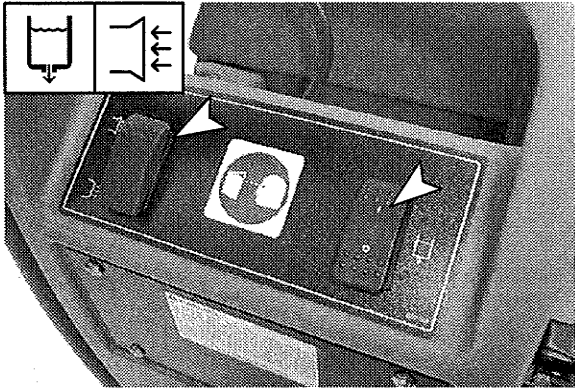

FIG. 35
4. Activate pump switch and press vacuum/blower switch towards vacuum symbol (Figure 35).